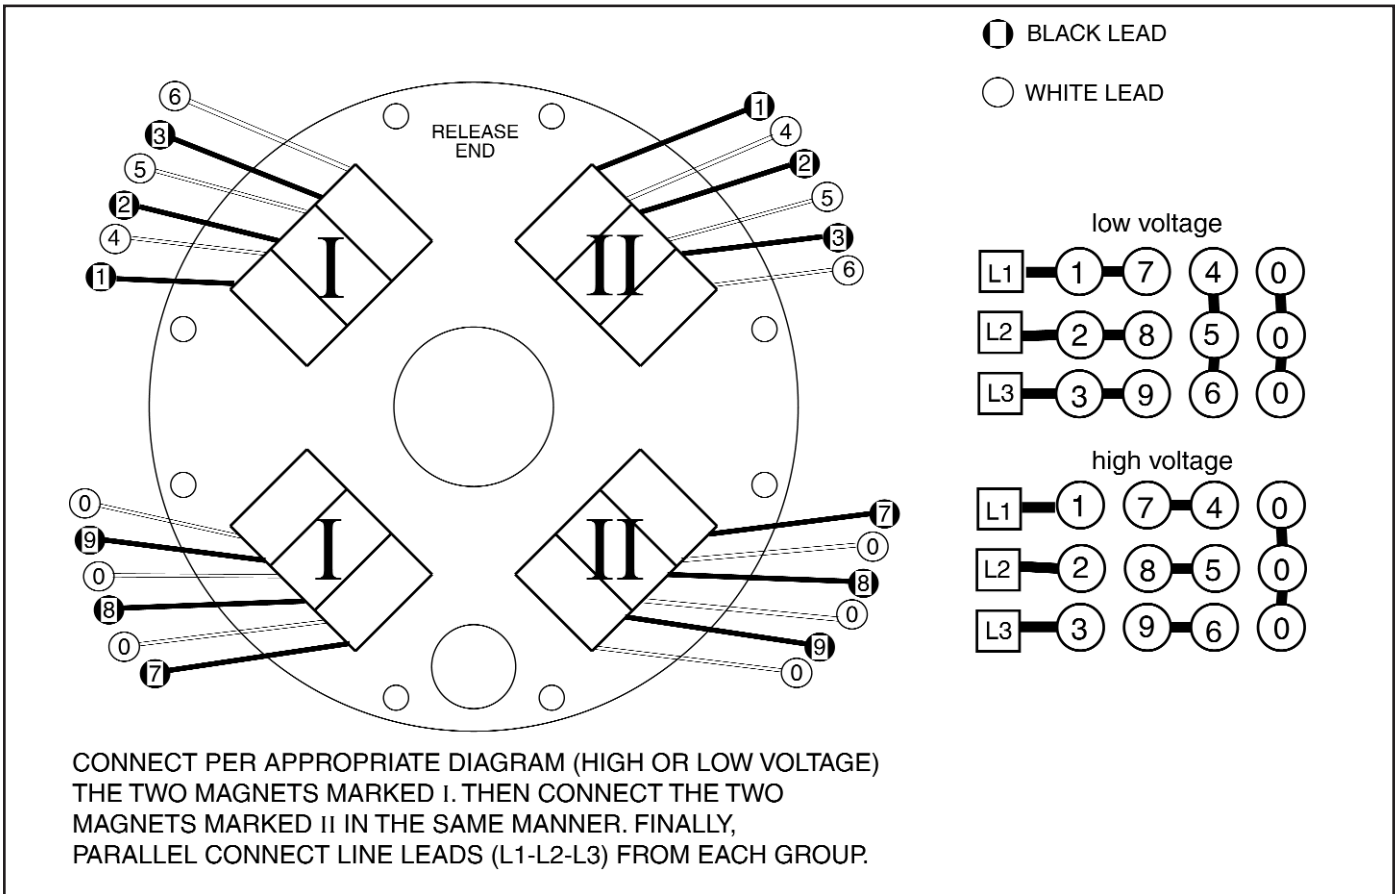
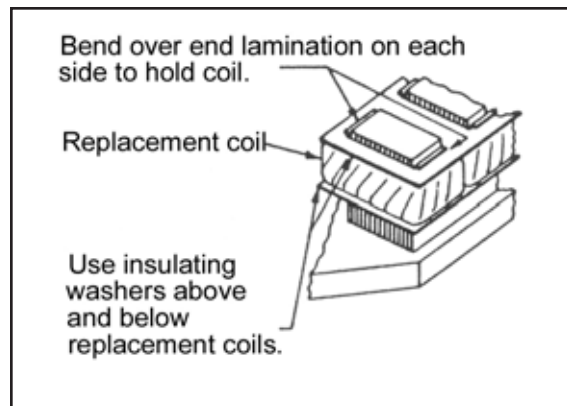

Figure 2. Wiring Diagram
Figure 8. Fastening of Replacement Magnet Coils
(Refer to Figures 2, 3, 4 & 5)
5. MAGNET ADJUSTMENT — Adjust air gap "A" between locknuts and magnet plate face using a spacer equal to air gap "A" nominal per appropriate model, refer to Figure 3. Then pull the magnet plate back against all eight locknuts (16). Bring the jam nuts (15) back to magnet plate and tighten evenly. Remove object blocking operator arm. Check air gap after removing block. Readjust if necessary. Connect lead wires per wiring diagram as shown in Figure 2. Apply rated voltage to brake. If there is a loud magnet noise, find the area of heavy vibration by placing a finger on each end of the four magnets in the area where it meets the pressure plate. Using nuts (15) and (16), on the stud (2) closest to the vibration, move magnet plate in and out, by loosening one nut and tightening the other, 1.8 turn maximum. Adjust in and out until magnet noise is reduced. Continue this process around all eight studs if needed, until magnet noise is at a minimum.
6. COVER INSTALLATION — Install cover (8) (with gasket (58) when used) making sure pin in release handle (9) is facing up for proper alignment with release shaft, add cover screws (14) with lockwashers (13).
(Refer to Figures 2, 3, 6 & 9.)
(Refer to Figures 2, 3, 8 & 9.)
1. Coils (18) are held in place by epoxy cement or by bent over end magnet laminations. Force coil off magnet if held by epoxy and remove excess epoxy from the magnet surfaces, or bend up the end laminations and remove coil.
2. Replacement coils are held in place by bending of end laminations. (See Figure 8.) Insulating washers (19) are used above and below the coil on replacements. Order insulating washers when ordering a coil. When installing coils, it is very important to follow EXACTLY the sequence of the black and white leads as shown in the wiring diagram. Brake will not operate properly unless coils are in the correct position. (See Figure 2.)